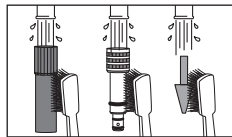

Fig. 34
- ① Clean the entire outer surface of the handpiece with a soft-bristled toothbrush for at least 15 seconds. (Fig. 34).